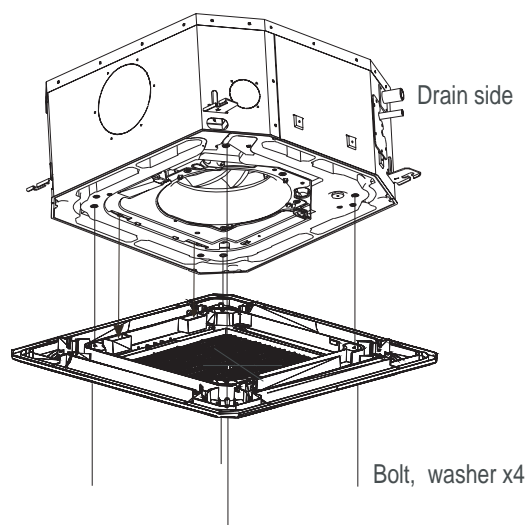

Fig.25
1. Align the swing motor on the panel to the tubing joints of the body properly. (Fig.25)
2. Hang the four fixed rope of the main body to the installation cover and the other three covers of the swing motor. (Fig.25)